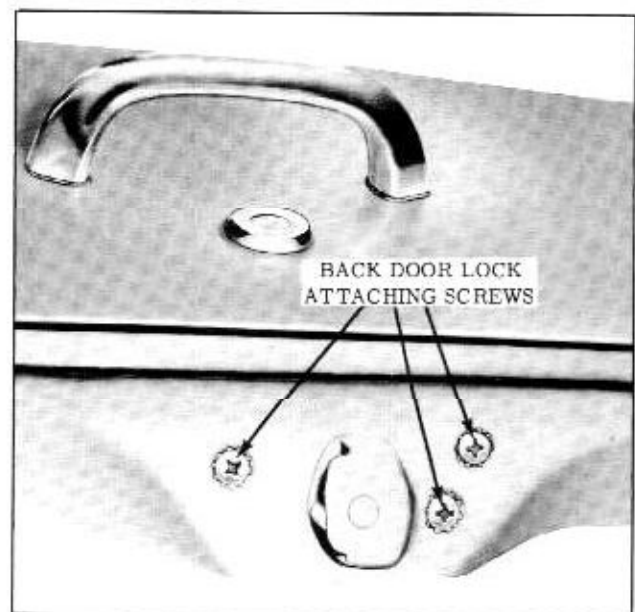

Fig. 15-37 Back Door Lock
4. Remove three back door lock attaching screws from face of lock pillar (Fig. 15-37) and remove lock through hole in door inner panel.